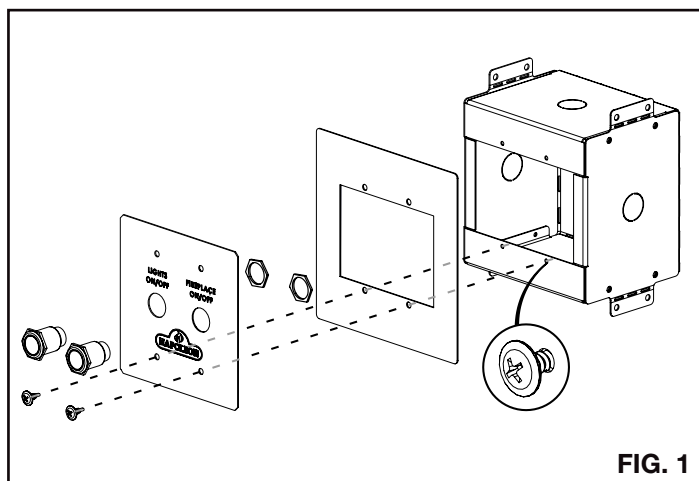

FIG. 1
1. Assemble the control switch. (FIG. 1)